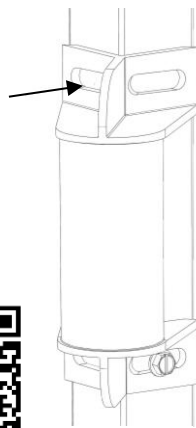

Fig. 1.2
- a. Place the top screw hole slot of the GTU (Fig. 1.2) approximately 9" below where the gas tank meets the frame, **OR** 1/2" above the lowest electrical outlet (**whichever location is lower on the generator frame**). These positions will ensure optimal placement for the GenTent Clamp (page 9, section h.).
- b. With the GTU in the desired position, mark the generator frame centered inside one of the top screw hole slot on the GTU. Then mark the center of the screw hole slot diagonally across from the first. (Fig. 1.2)
- c. Using a 5/32" drill bit, drill one hole centered on each of the marks made on the generator frame. (Fig. 1.2)